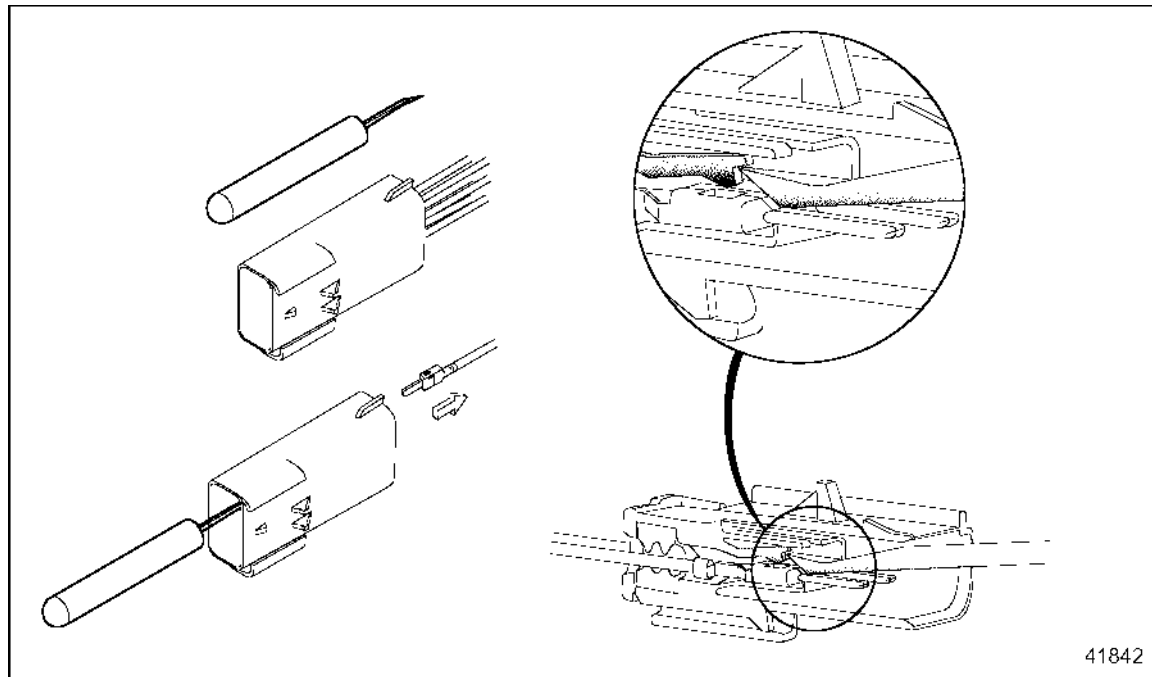

Figure 3-42 Pressing the Locking Tang
2. Using a FCI APEX repair tool (P/N: 54900002) or a #2 jeweler's screwdriver, press back the terminal locking tang (see Figure 3-42).